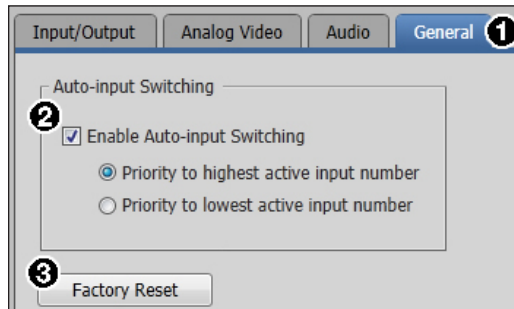

Figure 37. General Tab
Click the **General** tab (see figure 37, ①) to open the General screen. It contains settings for auto switch mode and factory reset.